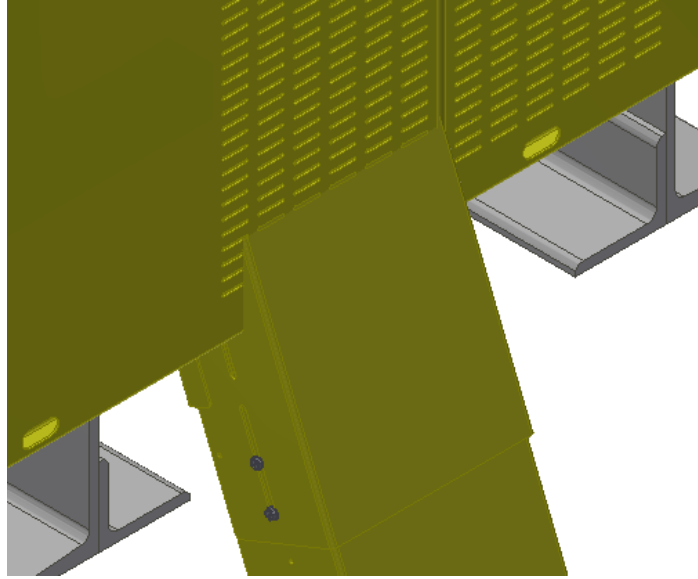
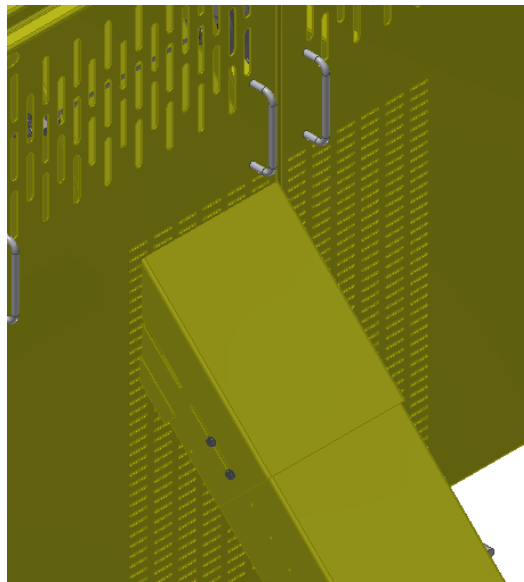

Figure 28: Machine Guard Rope Panel Modification
Figure 29: Machine Guard Rope Panel Modification
- Cut the Machine Guard Rope Panels (p/n's \_ \_-237 & \_ \_-238) along the slotted pattern as necessary to clear the ropes and/or rope guards as shown below (Figure 28, Figure 29).